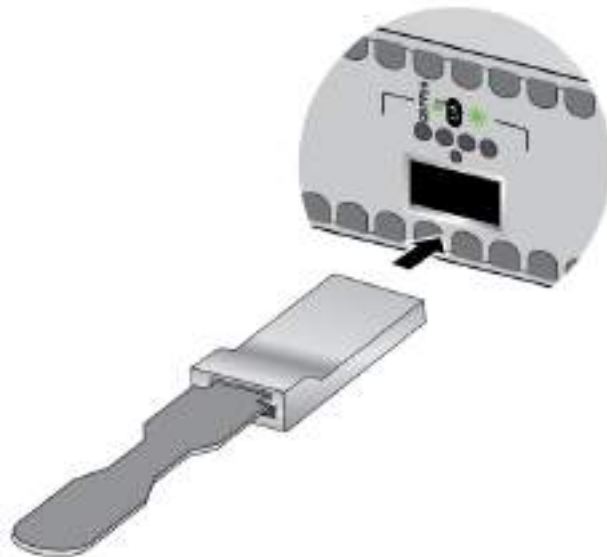

Figure 119. Installing 100Gbps QSFP28 Transceivers in XEM2-1CQ Line Cards
- ❑ 100Gbps QSFP28 transceivers for XEM2-1CQ Line Card: refer to Figure 119.